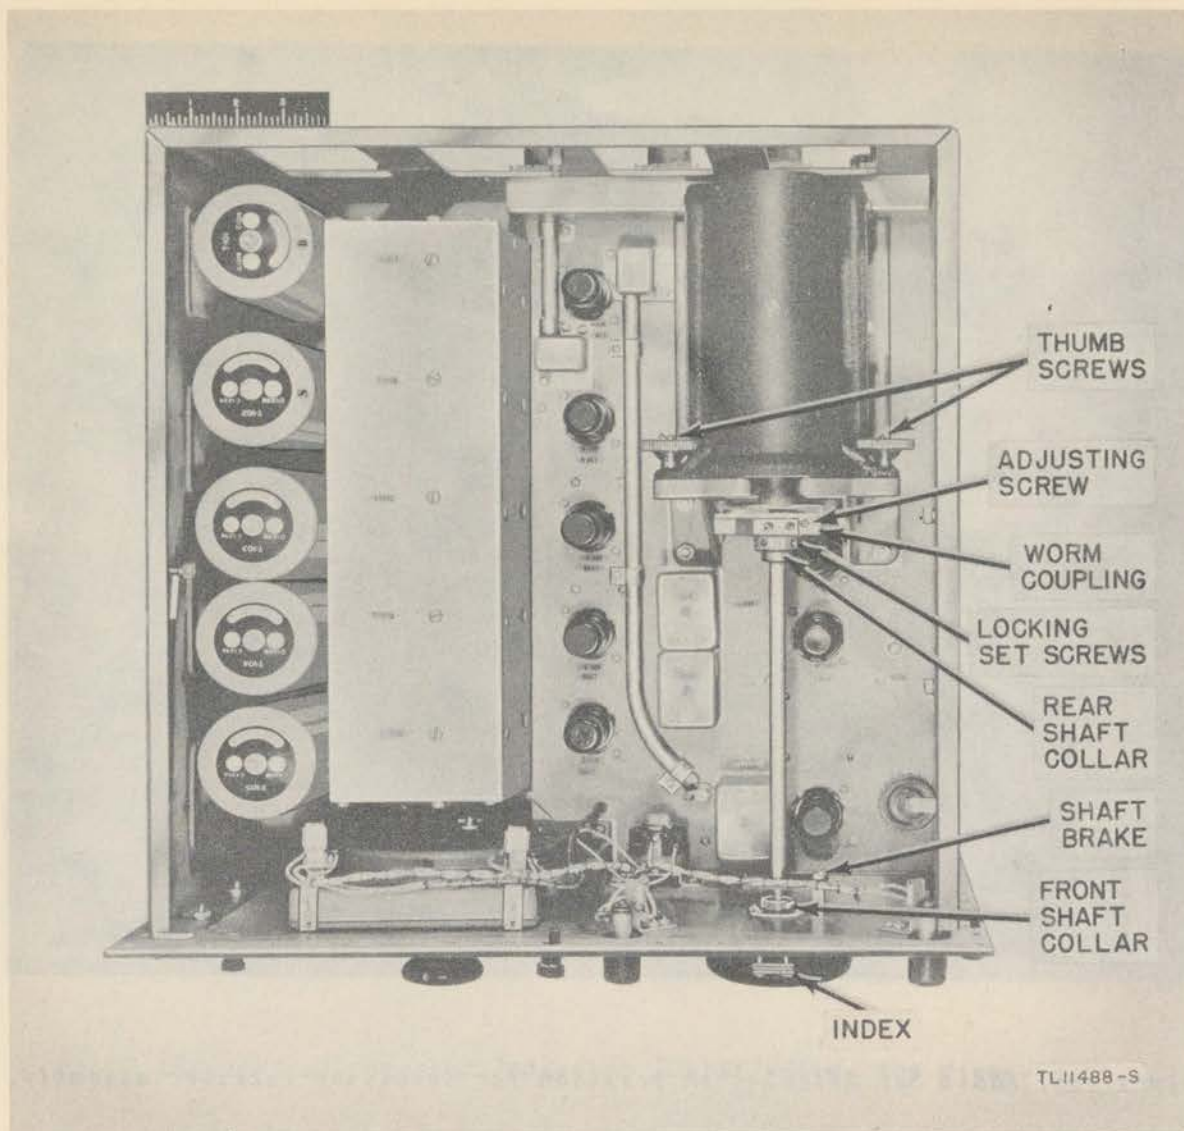

Figure 129. Top view of modulator section showing goniometer coupling.
(5) Reconnect the r-f and power cords to the modulator section.
(6) Turn the power on and the indication switch to NULL.
(7) Turn the 0° switch on and the 90° , 180° , and 270° switches off.
(8) Tune in a strong signal at approximately 600 kc. If no satisfactory signal is found, the target transmitter must be used as described in paragraph 129a.
(9) An azimuth should be obtained at 0° and 180° .
(10) If the azimuth does not read exactly 0° and 180° , loosen the locking screws on the worm coupling (fig. 129). Set the dial to the desired reading, and tighten the bakelite brake on the goniometer shaft. Turn the adjusting screw on the worm coupling until a bearing is obtained at 0° and 180° .